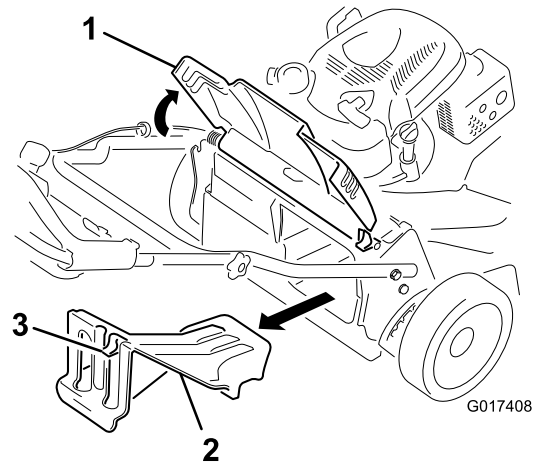

Figure 26
1. Raise and hold up the rear door (Figure 26).
2. Remove the rear-discharge plug by pulling down on the latch with your thumb and pulling the plug out from the machine (Figure 26).